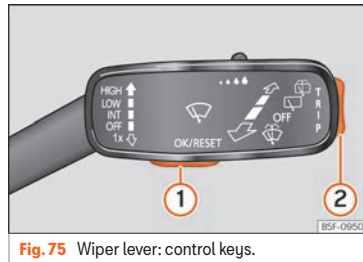

Fig. 75 Wiper lever: control keys.
menu. Some warnings can be confirmed and hidden with the button » **Fig. 75** ①.